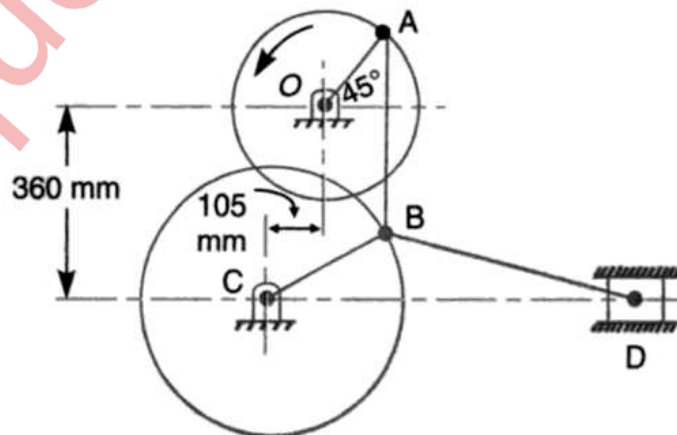

Fig. 1
2. (A) The mechanism, as shown in Fig. 1 the slider D is constrained to move on a